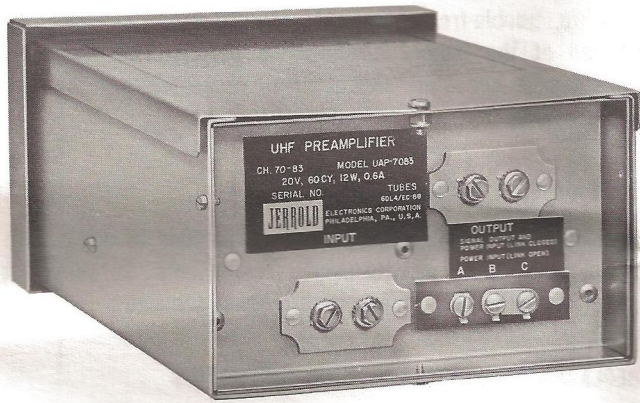

Fig. 5—Connections to Model UAP-7083
1. Connect antenna output to UAP-7083 input via twin-lead. See Fig. 5.
- a. Leave link as shown in Fig. 5. Connect a length of twin-lead to OUTPUT screw terminals of UAP-7083 and run twin-lead to UHF input terminals on mast-mounted UHF/VHF converter. Keep run as short as possible.